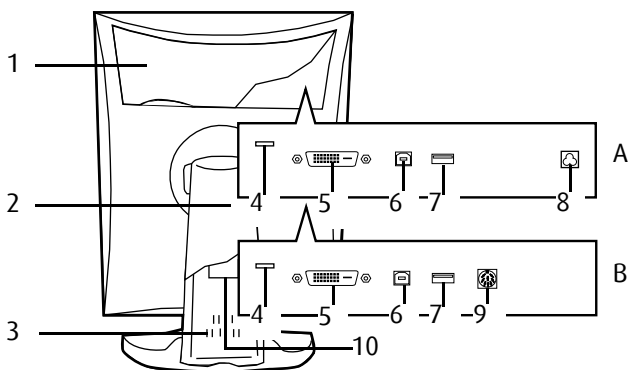

Figure 2
4. Install the BarcoMed 5MP2FH Controller into a free PCI slot, either 32 bit or 64 bit (see figure 2, for examples of slots). Be sure that the display controller is seated firmly in the slot.